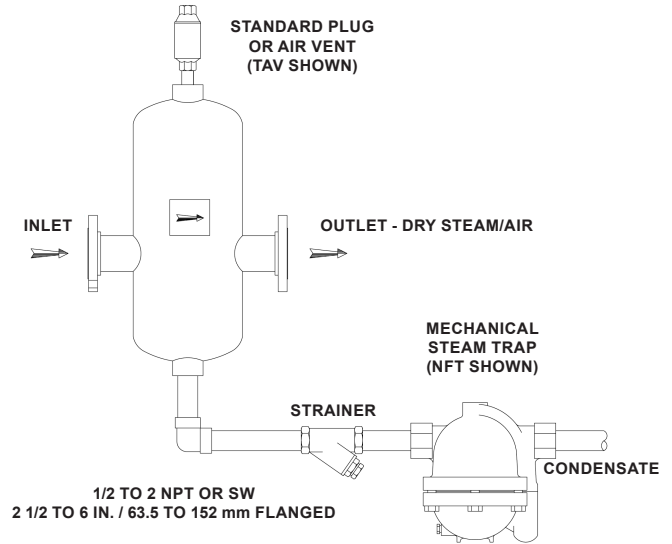

Figure 1. Typical Installation
2. Install the steam separator in a horizontal pipe configuration with the drain directly below the line, see Figure 1.